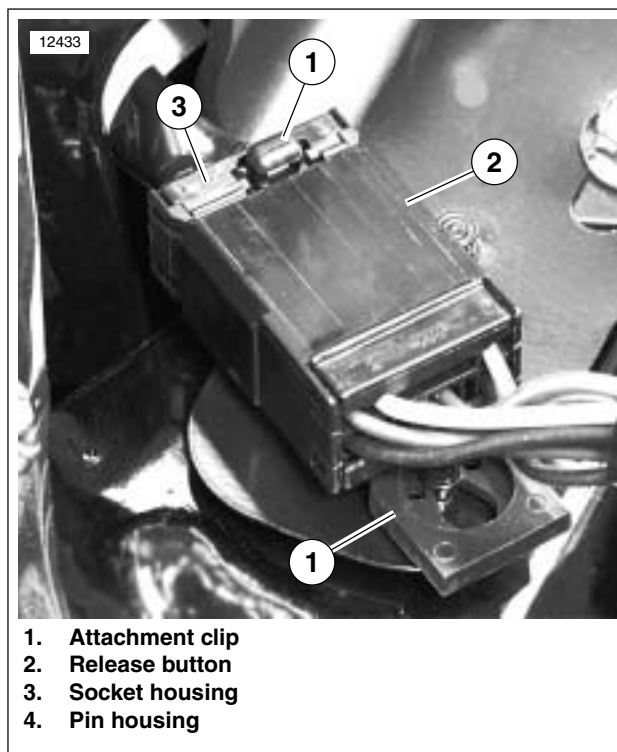

Figure B-1. Amp Multilock Connector]
See Figure B-1. Attachment clips (1) on the pin housings are fitted to T-studs on the motorcycle frame. The T-studs identify OE connector locations. To maintain serviceability, always return connectors to OE locations after service.
2. See Figure B-1. Depress the release button (2) on the socket terminal side of the connector and pull the socket housing (plug) (3) out of the pin housing (receptacle) (4).